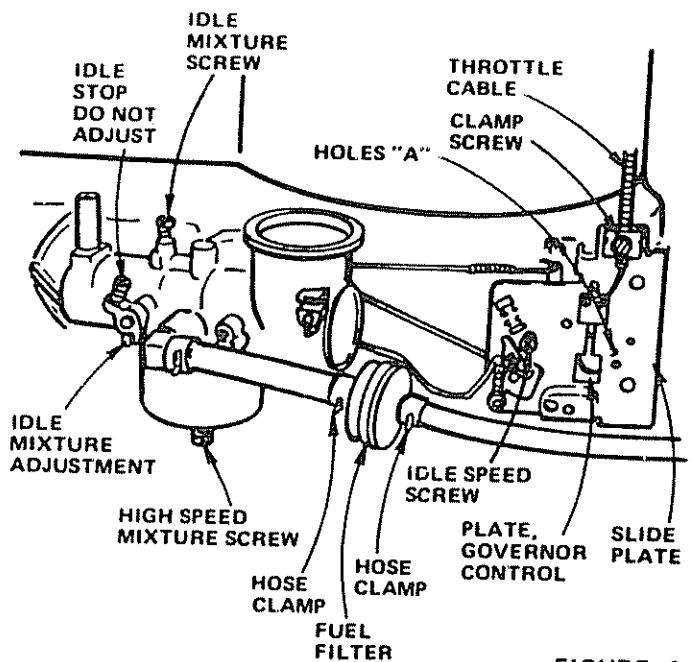

FIGURE 19
- Loosen Clamp Screw (Fig 19). Adjust Throttle Cable until holes "A" are aligned in governor control plate and slide plate.
- With engine off turn high speed mixture screw clockwise (↻) closing finger tight ONLY, and turn counterclockwise (↺) 1-1/2 turns (Fig. 19)
- Turn idle mixture screw clockwise (↻) closing finger tight only, and turn counterclockwise (↺) 1-1/2 turns (Fig. 19).